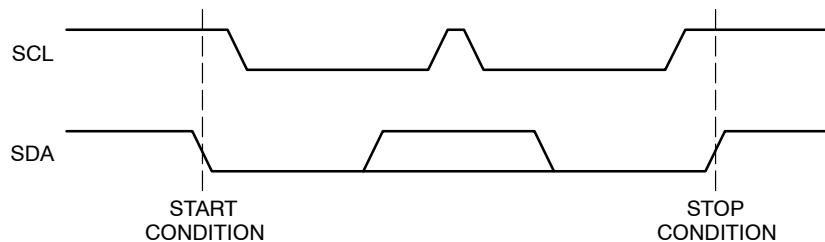

Figure 6. START/STOP Condition
2. During a data transfer, the data line must remain stable whenever the clock line is high. Any changes in the data line while the clock line is high will be interpreted as a START or STOP condition (Figure 6).
After a successful data transfer, each receiving device is required to generate an acknowledge. The acknowledging device pulls down the SDA line during the ninth clock cycle, signaling that it received the 8 bits of data. The SDA line remains stable LOW during the HIGH period of the acknowledge related clock pulse (Figure 6).